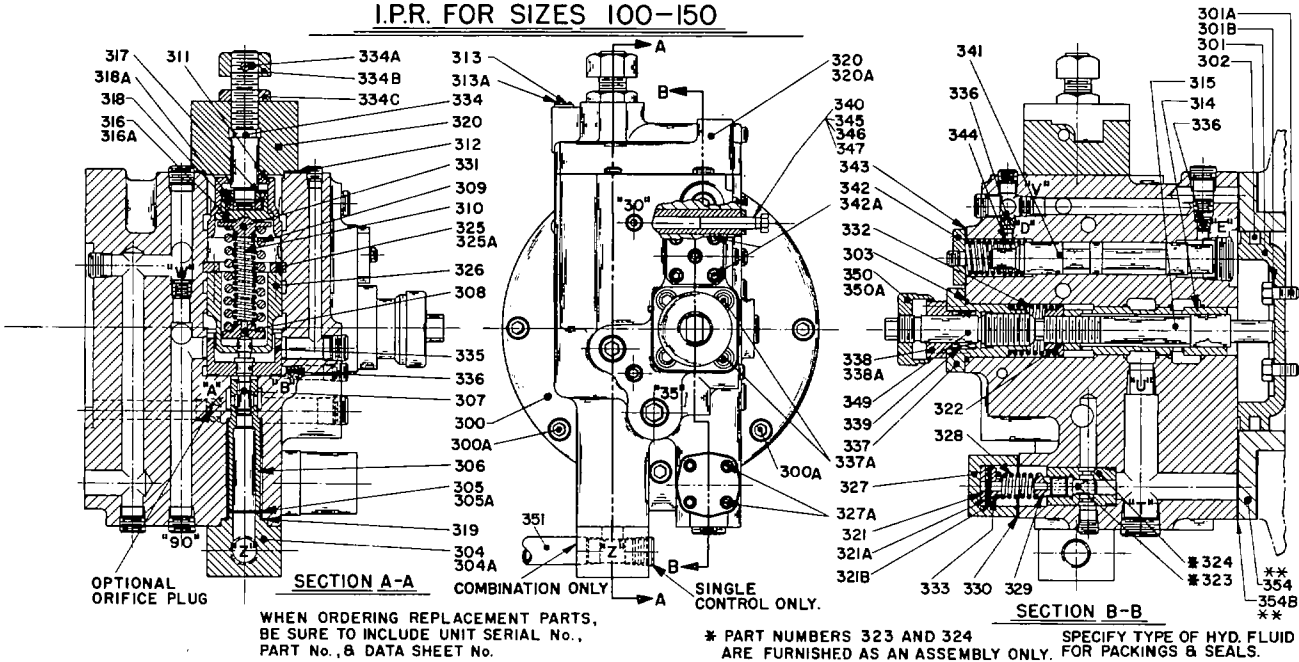

Figure 9. Parts Drawing, Direct, Standard and IPR Type Controls. DS-947504-C (503223-C)
DIRECT, STANDARD TYPE (Sizes 4 thru 100). See figure 9. Remove neutral stop assembly (331, 334 and 332). DO NOT turn screw (334) or readjustment will be necessary (Section V-C). Unscrew socket head cap screws (320A) and remove spring cover (320) with pressure adjusting screw (315). Withdraw pilot relief valve guide piston (311), shims (319) if used, spring (309), spring guide (310), spring seat (308) and plunger (307). If plunger binds, remove plug below pilot relief valve, and tap out with a brass rod. Remove control relief valve spring (328), shims (321, 321A) and plunger (323). Remove cap and plug (327) at bottom of control housing and withdraw bushing (324), spacer (325) and seat (329). Remove pipe plugs so orifices can be removed (one at a time), inspected, cleaned and reinstalled.
DIRECT, IPR TYPE (Sizes 100 & 150). See figure 9. Back out screws (337A) of stroke adjusting head (337) evenly so the spring, which is under tension, will not cock assembly components. Remove head (337), spring (332), neutral stop screw (315) and neutral stop plunger (314). DO NOT turn adjusting
PARTS LIST (Figure 9)